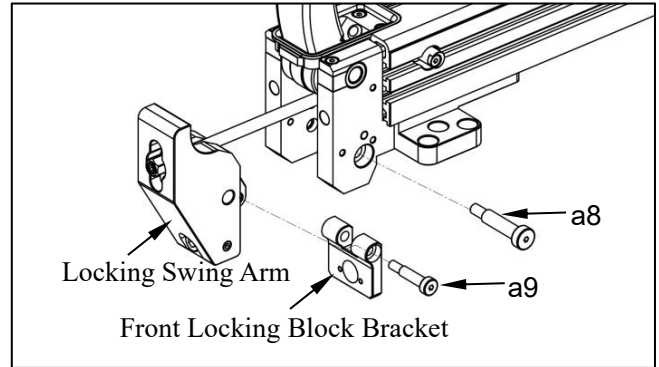

Fig. 35
5. As shown in Fig. 35, remove the two shoulder screws and take off the front locking block bracket, then pull out the locking swing arm.